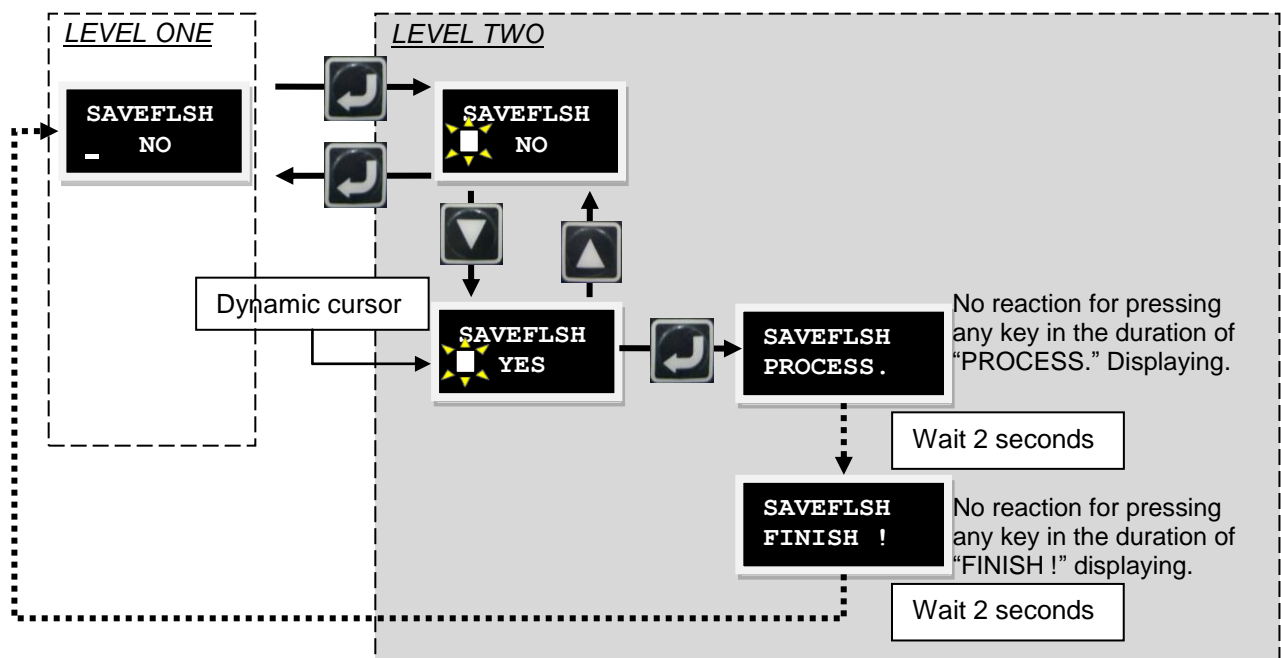
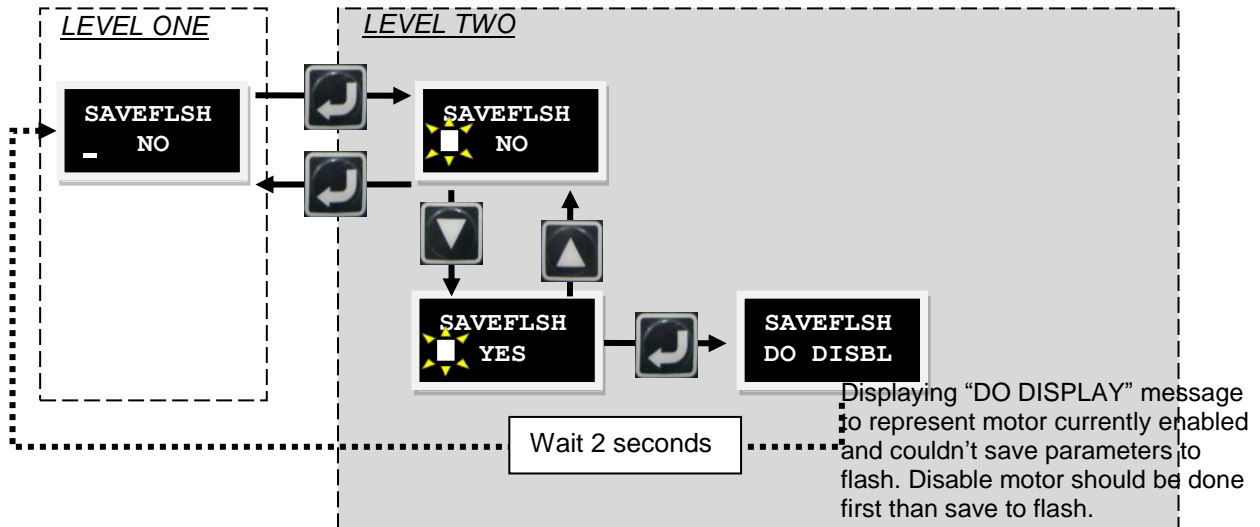

Figure 6-6 Flow chart of SAVE TO FLASH (When the motor is disabled)
Figure 6-7 Flow chart of SAVE TO FLASH(When motor enabled)
(1) Press the ENTER key to enter SAVEFLSH item. (A flashing cursor will be at left side of second column)
(2) Press the up or down key to select YES or NO to save parameters in memory to flash in the drive. Select YES to go to next.
(3) When the servo is disabled (DISABLE), pressing the ENTER key will show PROCESS Message. It means saving parameters into flash is under proceeding and FINISH! A message will be displayed after completed. The operation procedure is shown in Figure 6-6. When servo is enabled (ENABLE), pressing the ENTER key will show an error message of DO DISBL and no parameters be saved to the flash. Servo disabled should be done for forward this operation and its procedure is shown in Figure 6-7.